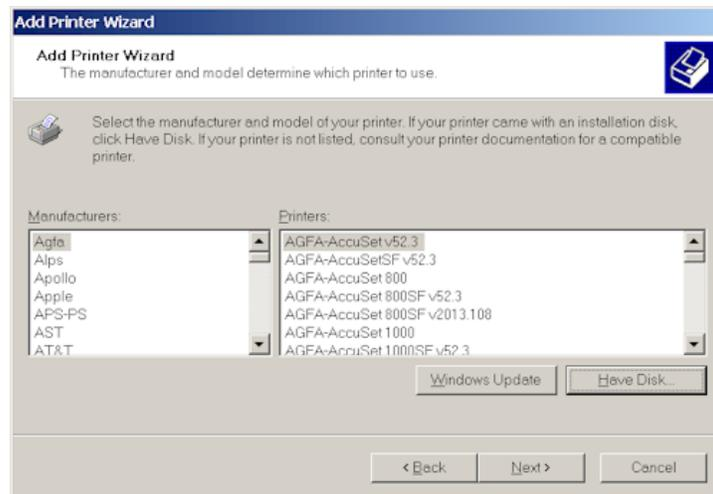

Figure 4, Printer Manufacturer
9. The fourth page of the “**ADD PRINTER WIZARD**” will be displayed as shown in Figure 4. Click on **<HAVE DISK>**. This will bring up the “**INSTALL FROM DISK**” splash screen.